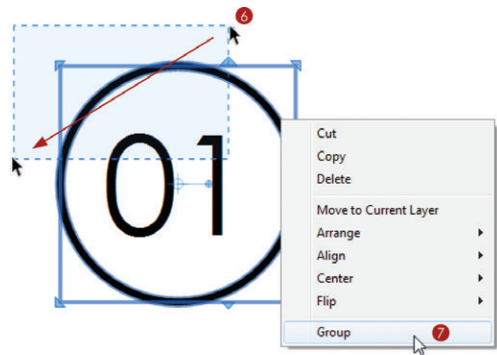

Figure 13.13 Group the door tag so that it functions properly as a scrapbook.
6. Activate the Select tool, click and drag from right to left to select both the circle and the text entities as shown in Figure 13.13.